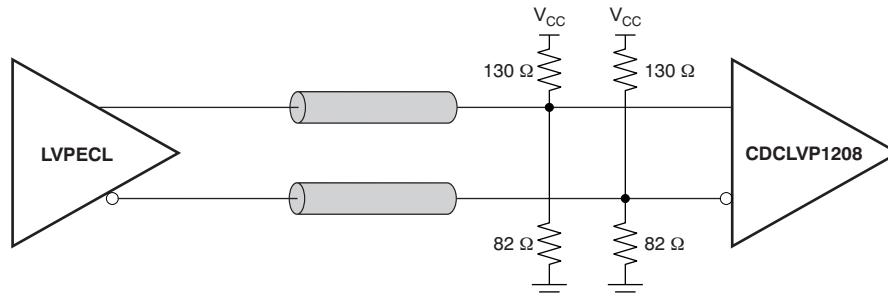
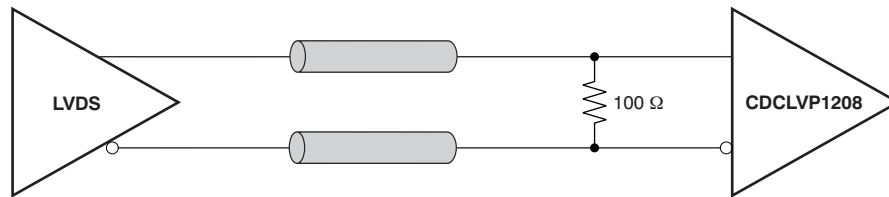

Figure 5. DC-Coupled LVPECL Input During Device Test
Figure 8. DC-Coupled LVDS Input During Device Test
(1) Figure 5 and Figure 8 show dc test setup. Figure 9 shows ac test setup.
This section describes the function of each block for the CDCLVP1208. Figure 5 through Figure 11 illustrate how the device should be setup for a variety of test configurations.